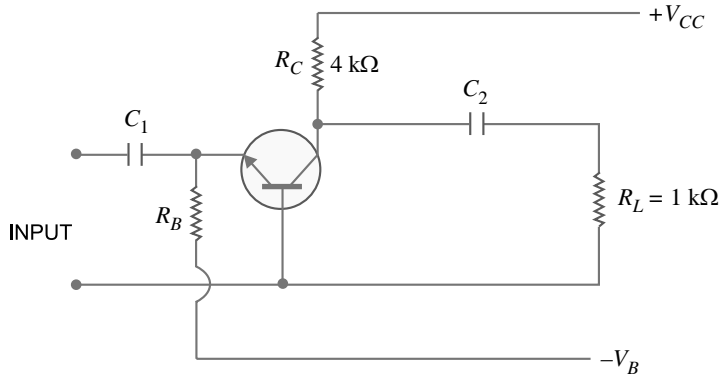

Fig. 22.17
**Example 22.12.** The transistor used in the common base circuit shown in Fig. 22.17 has the following small-signal  $h$  parameters :